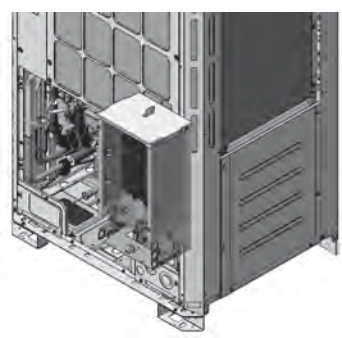

Figure 12
- (15) Make sure that no undue force is applied to the wires from which cable straps were removed in steps (8) through (13). Position the bottom attachment that was removed in step (5) above on the fin guard as shown in Figure 13, and then hook the main control box on the attachment as shown in Figure 12.